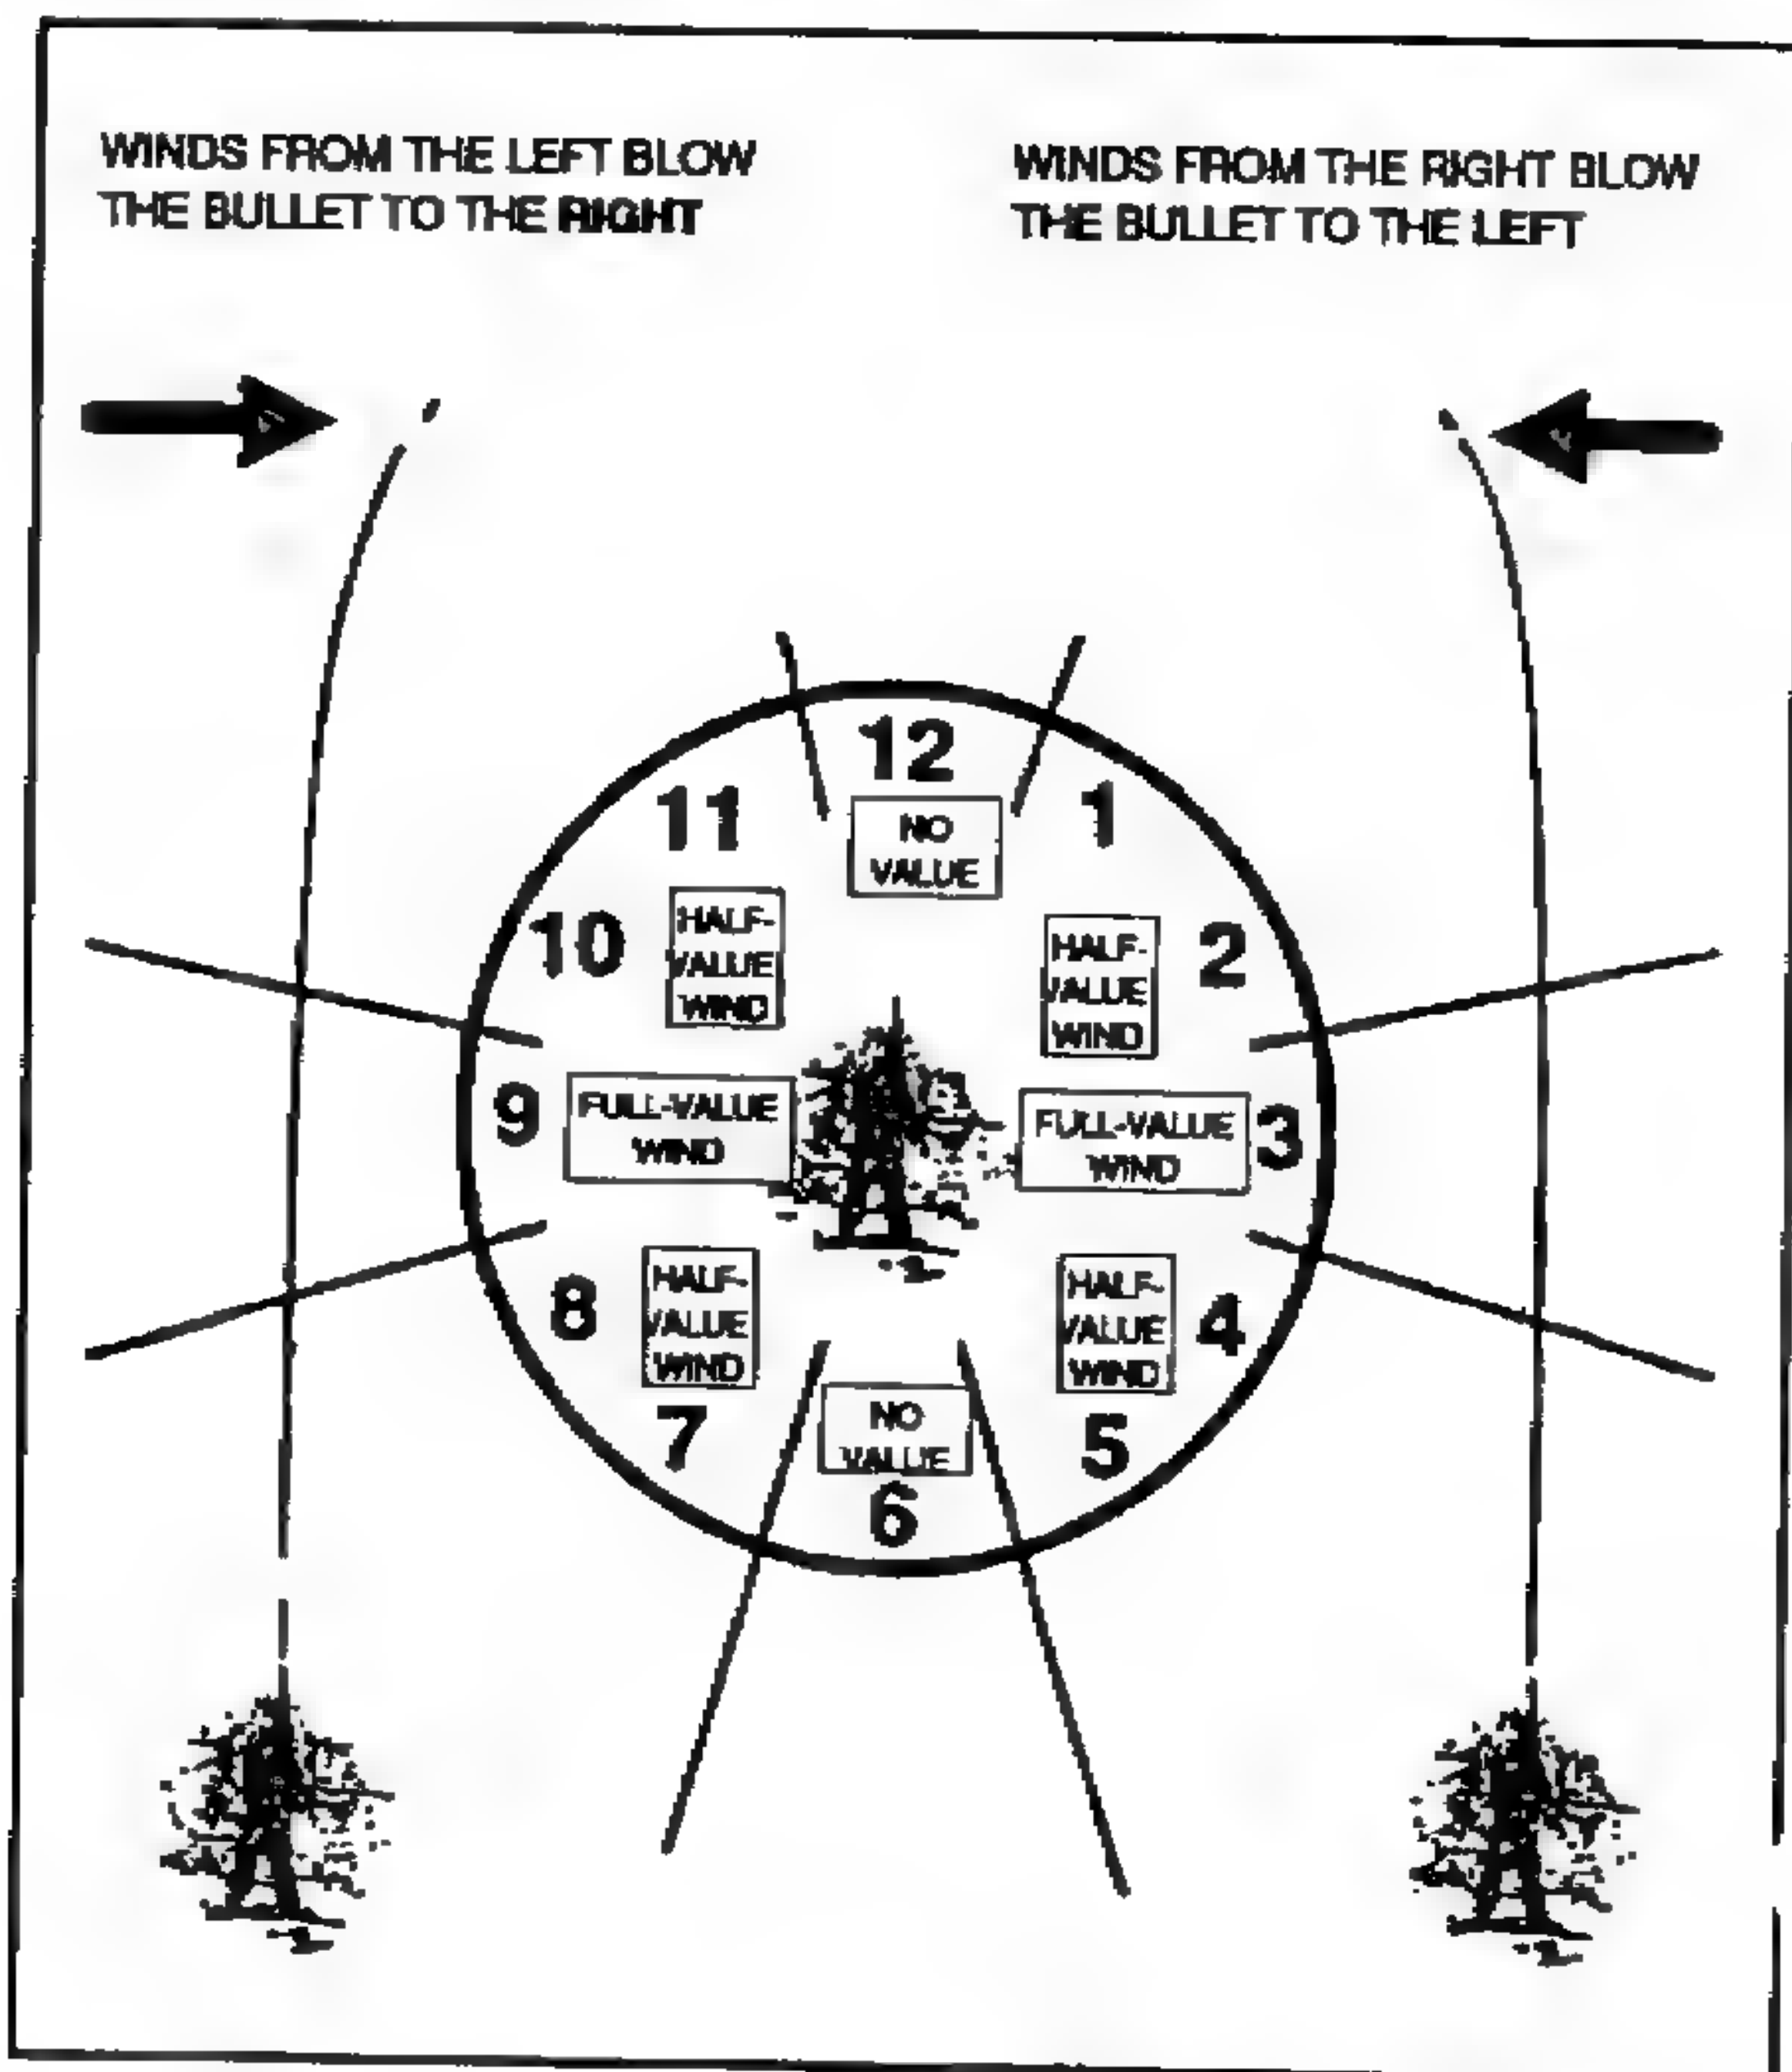

Figure 3-19. Clock system.
(3) **Humidity.** Humidity varies along with the altitude and temperature. Figure 3-19 considers the changes in altitudes. Problems can occur if extreme humidity changes exist in the area of operations. That is, when humidity goes up, impact goes down; when humidity goes down, impact goes up. Since impact is affected by humidity, a 20 percent change in humidity equals about one minute as a rule of thumb. Keeping a good sniper data book during training and acquiring experience are the best teachers.
b. Since the sniper must know how much effect the wind will have on the bullet, he must be able to classify the wind. The best method is to use the clock system (Figure 3-19). With the sniper at the center of the clock and the target at 12 o'clock, the wind is assigned three values: full, half, and no value. Full value means that the force of the wind will have a full effect on the flight of the bullet. These winds come from 3 and 9 o'clock. Half value means that a wind at the same speed, but from 1, 2, 4, 5, 7, 8, 10, and 11 o'clock, will move the bullet only half as much as a full-value wind. No value means that a wind from 6 or 12 o'clock will have little or no effect on the flight of the bullet.